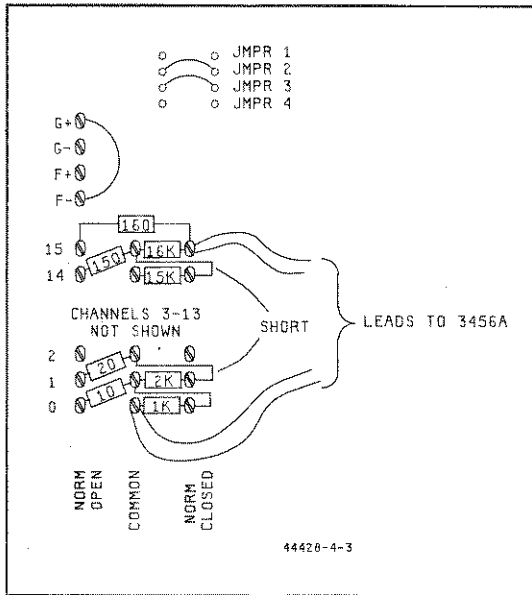

Figure 4-3. Wiring the Terminal Block
c. Referring to Figure 4-3, wire the terminal card as shown. Use short pieces of insulated wire and the resistors.
e. Referring to Figure 4-3, wire the Gate and Flag Handshake terminals and install jumpers J2 and J3.